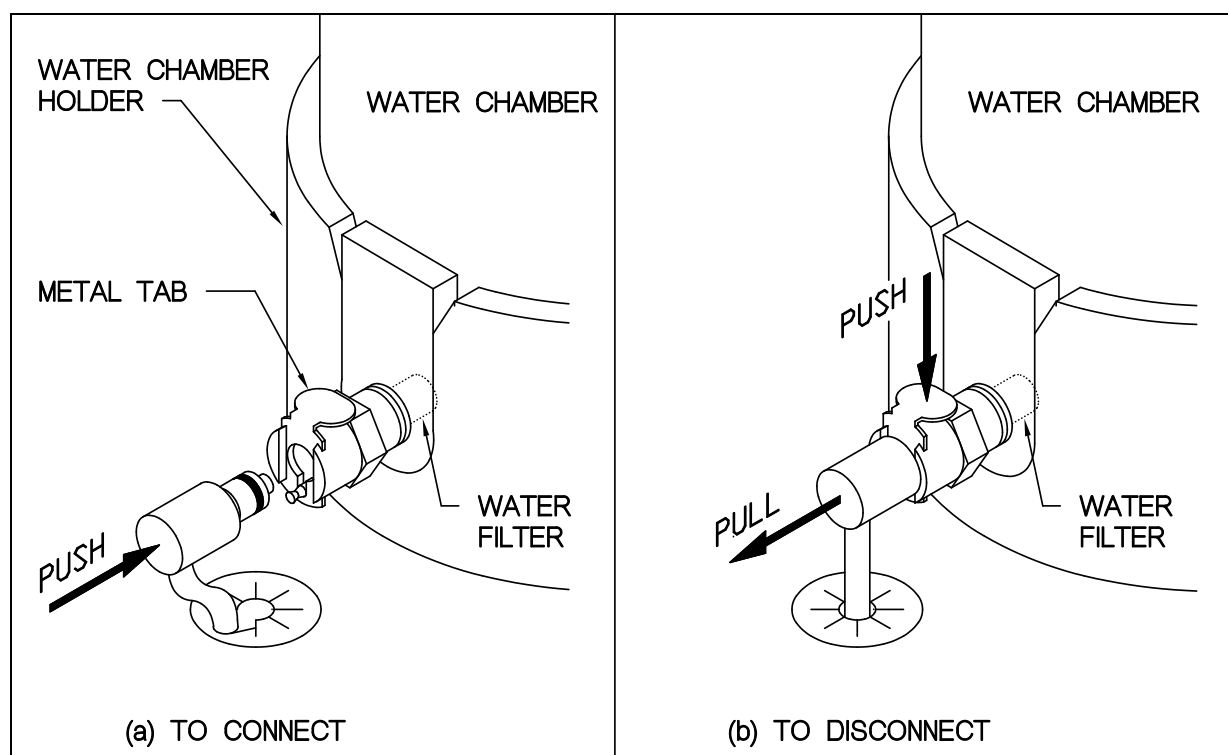

Figure 13: Bottom Quick-Connect and Filter on Water Chamber
- Place the water chamber into the water chamber holder on top of the Manometric Pump, lining up the water quick-connect pointing to the left on the bottom of the water chamber with the slot in the holder (Figure 13, Section 4.1).